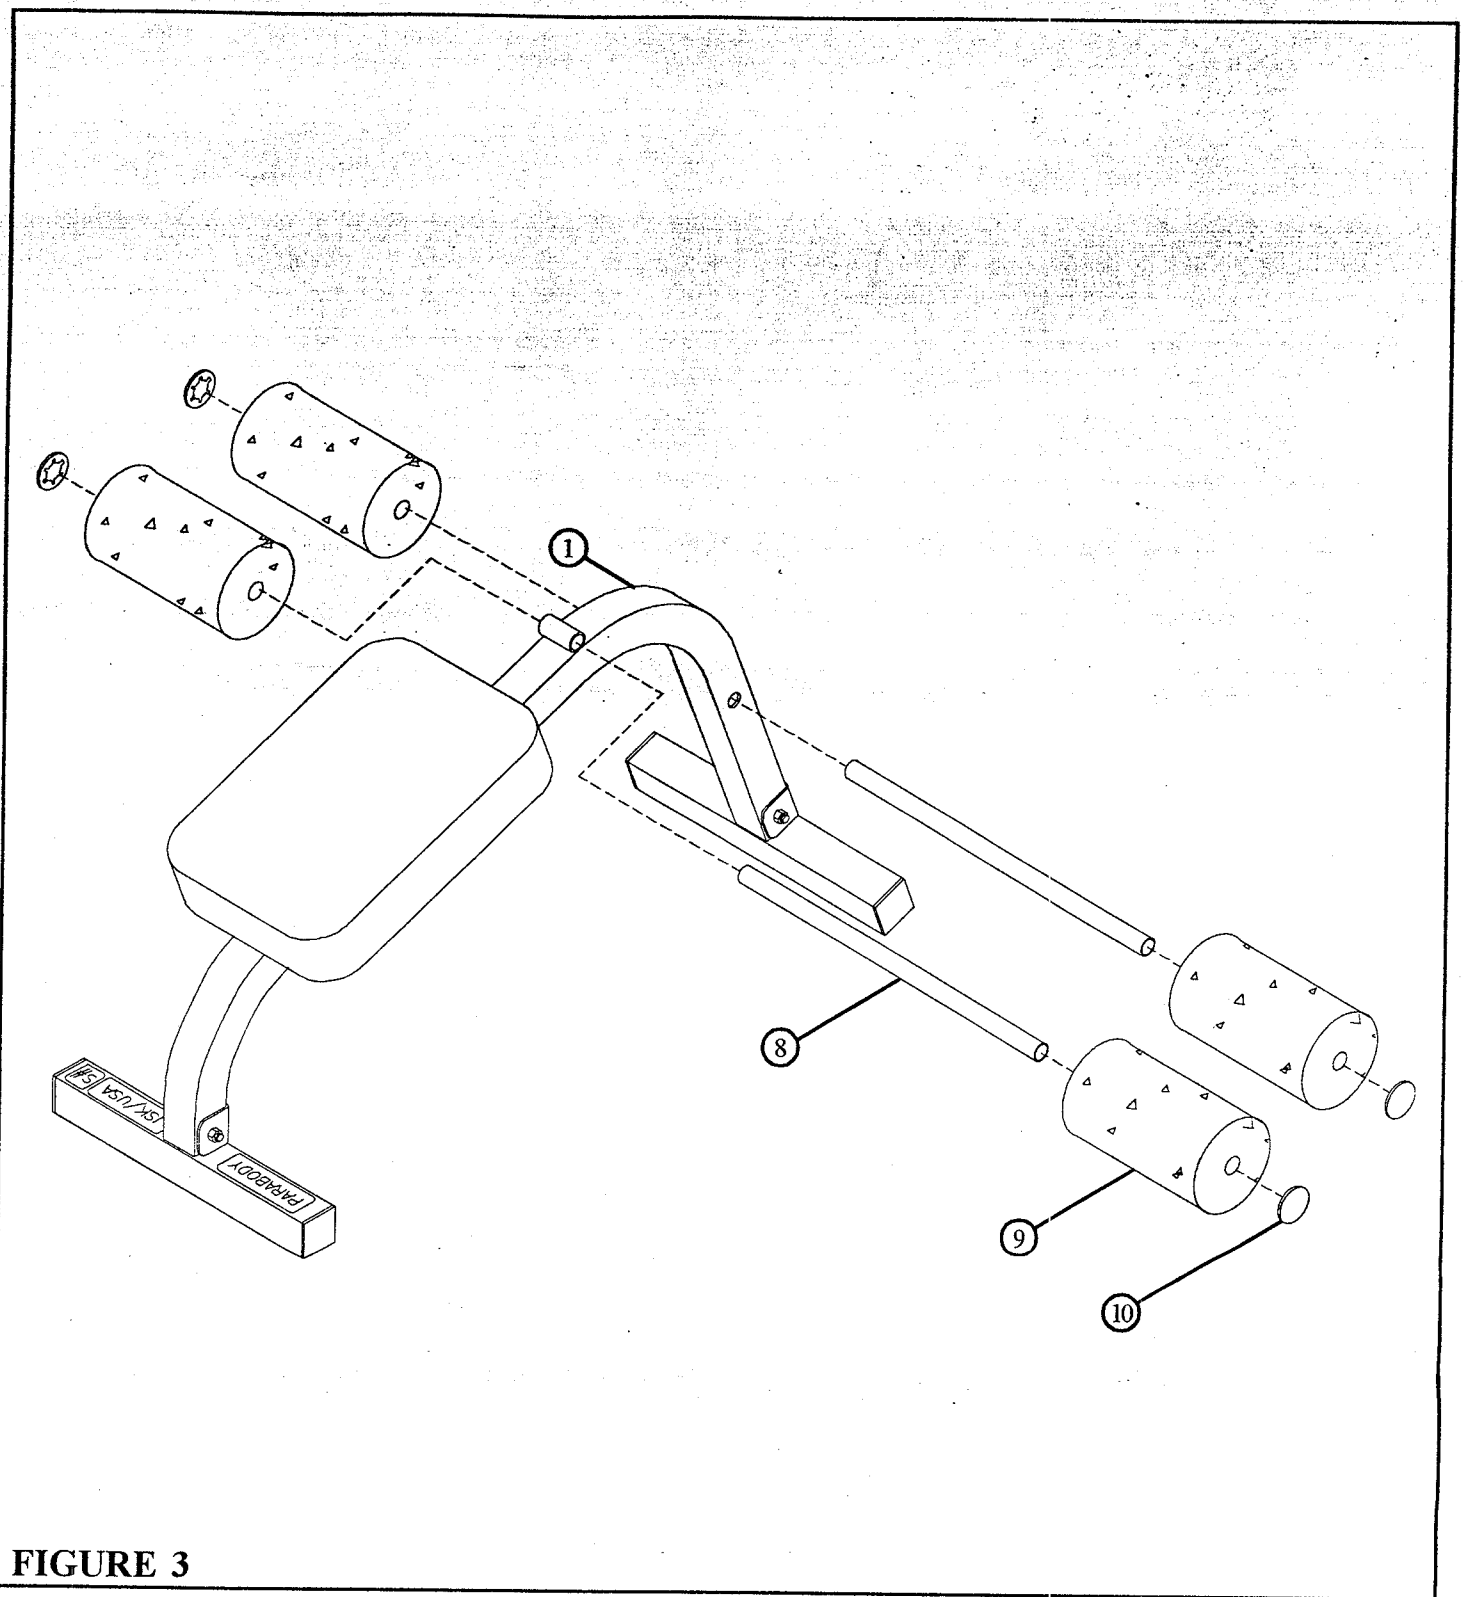

FIGURE 3
- Slide the four ROLLER PADS (8) onto two 3/4 X 16" TUBES (8) using four STARLOCK COLLARS (10) as shown in FIGURE 3.